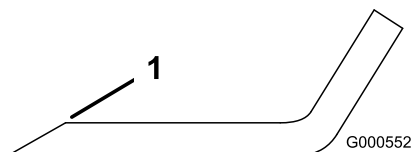

Figure 93
1. Use a file to sharpen the cutting edge at both ends of the blade (Figure 93).
Note: If the blade is not balanced, file some metal off the end of the sail area only (Figure 93).